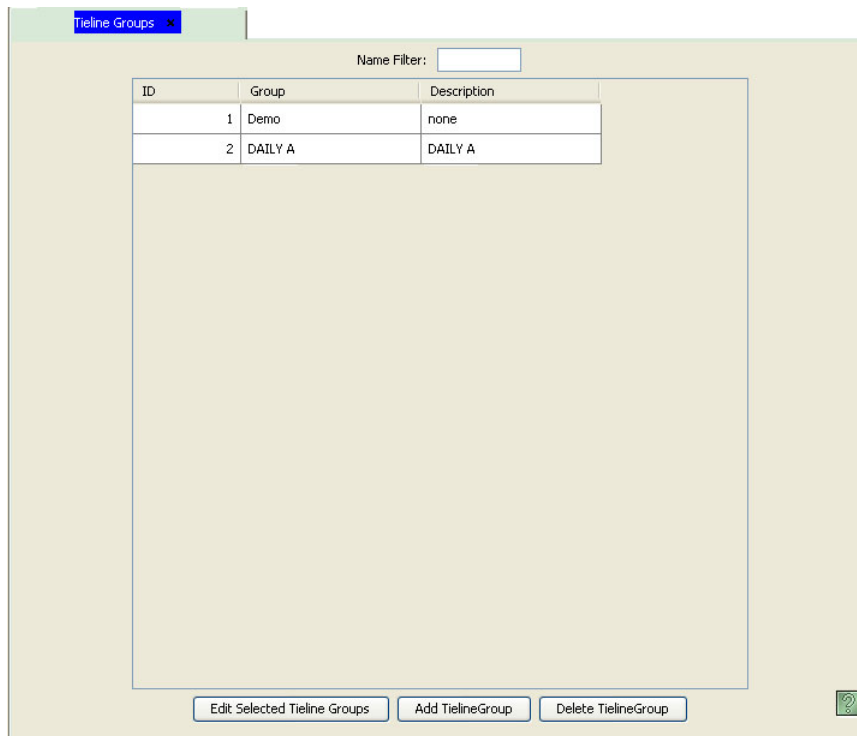

Figure 16-33. Tieline Group Page
- 1 From the Navigation area, select the 'Configuration' pane and then 'Tieline Groups'. The 'Tieline Groups' page displays, as shown in Figure 16-33. All tieline groups currently defined in the system are listed.